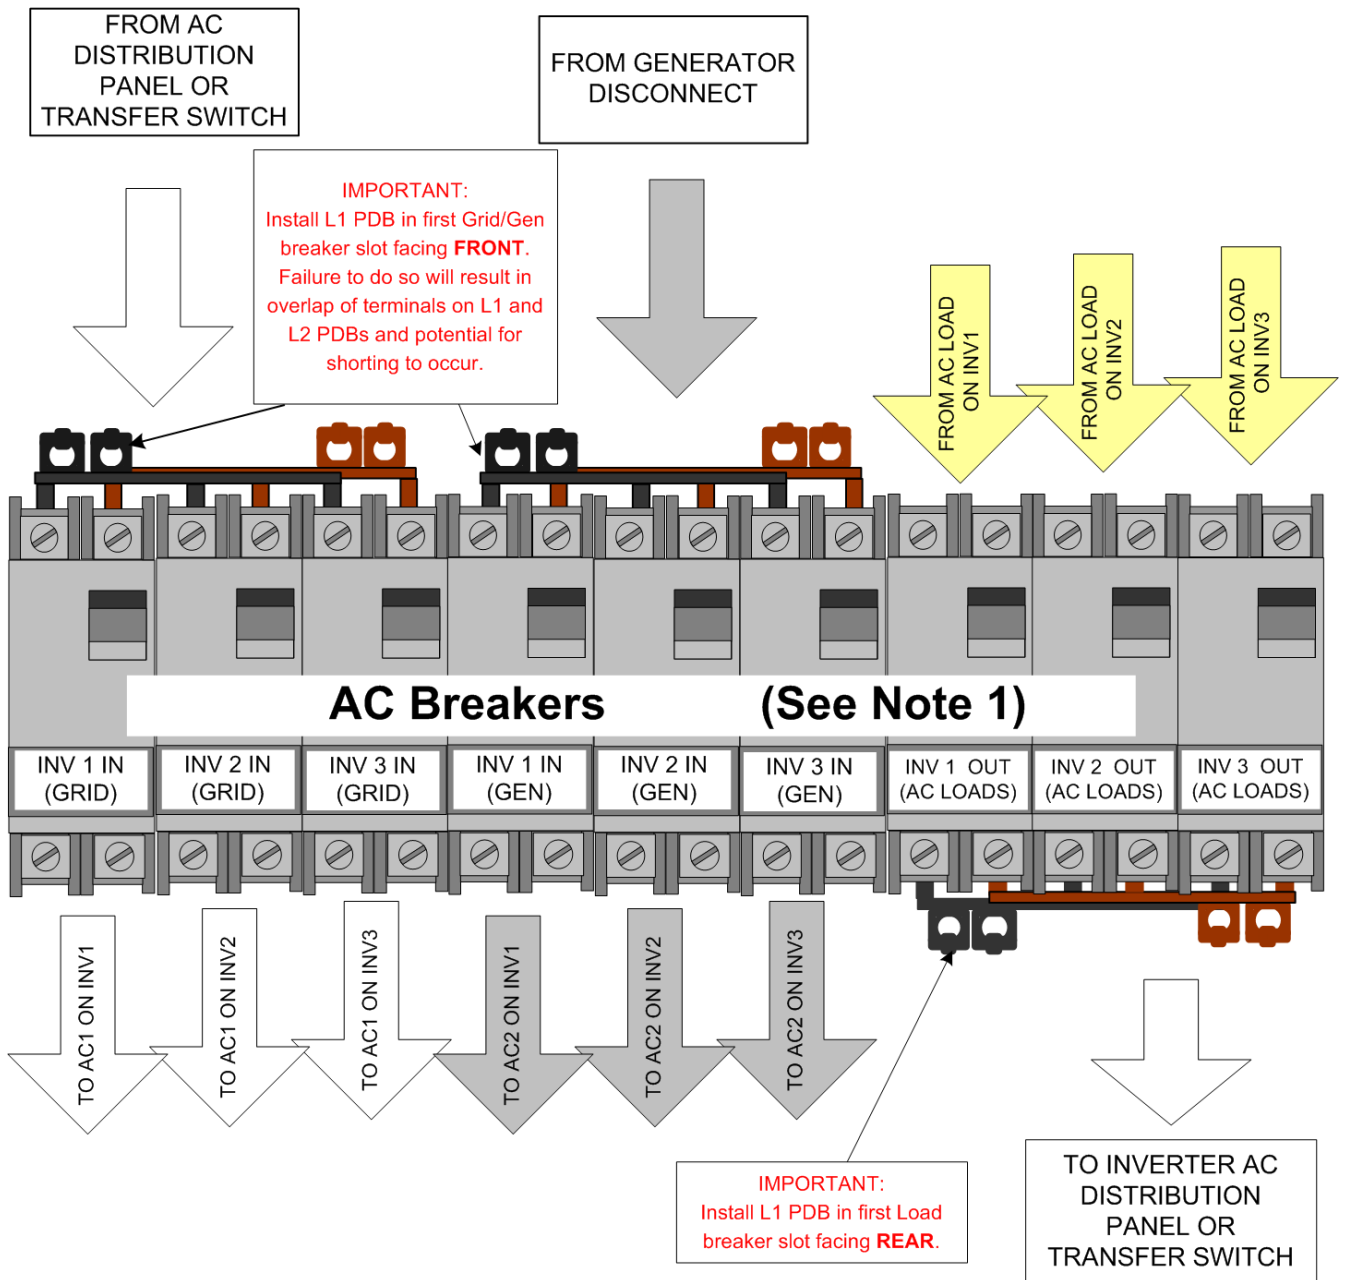

Figure 2 Triple-Inverter AC Breaker Arrangement and Wiring Enlargement with Dual AC Input Sources
7. Connect grid wiring and loads/subpanel wiring to the new distribution bars as shown in Figure 2.
8. Connect INV1 LOAD (INV1 L1-LOAD, INV1 L2-LOAD), INV2 LOAD (INV2 L1-LOAD, INV2 L2-LOAD), and INV2 GRID (INV2 L1-GRID, INV2 L2-GRID) wires to AC breakers as shown in Figure 2.